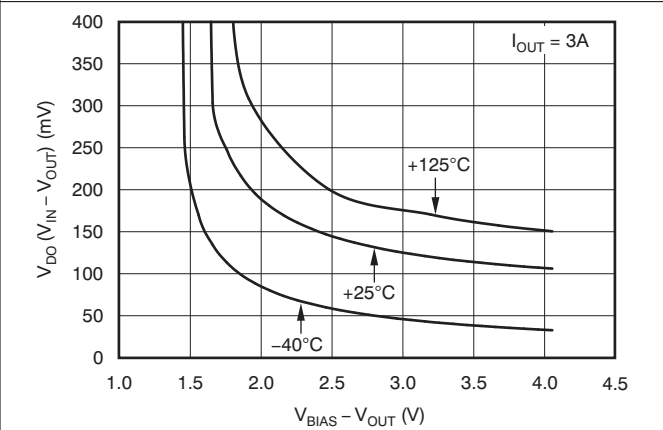

Figure 6-6.  $V_{IN}$  Dropout Voltage vs  $V_{BIAS} - V_{OUT}$  and Temperature ( $T_J$ )
- (1) Adjustable devices tested at 0.8 V; resistor tolerance is not taken into account.
(2) Dropout is defined as the voltage from  $V_{IN}$  to  $V_{OUT}$  when  $V_{OUT}$  is 3% below nominal.
(3) 3.25 V is a test condition of this device and can be adjusted by referring to Figure 6-6.